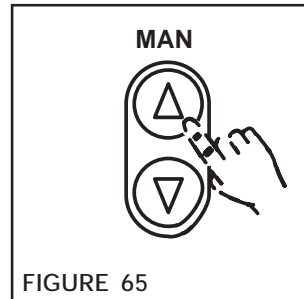

FIGURE 65
1. Press the upper **MAN**ual Key to change the reading on the Tension Indicator to 1 (See Figure 65).